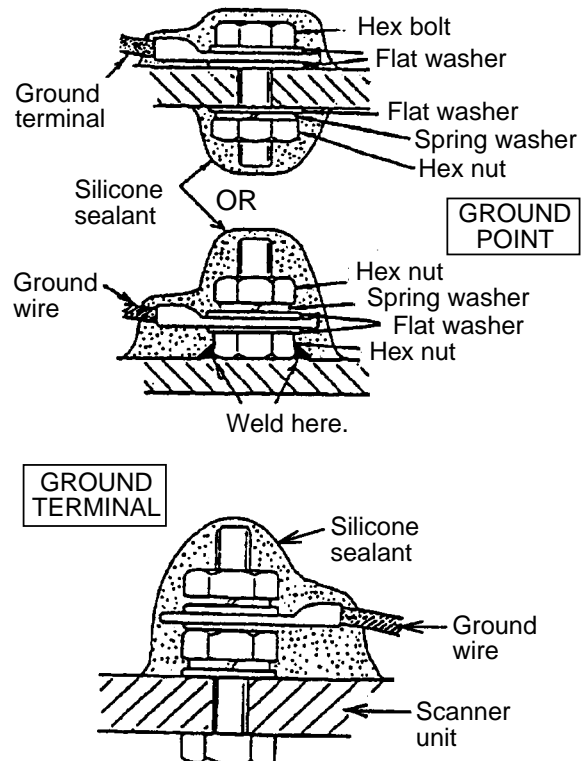

Figure 9 How to coat ground point and ground terminal with silicone sealant
8. Coat ground terminal and ground point with silicone sealant as shown in Figure 9.